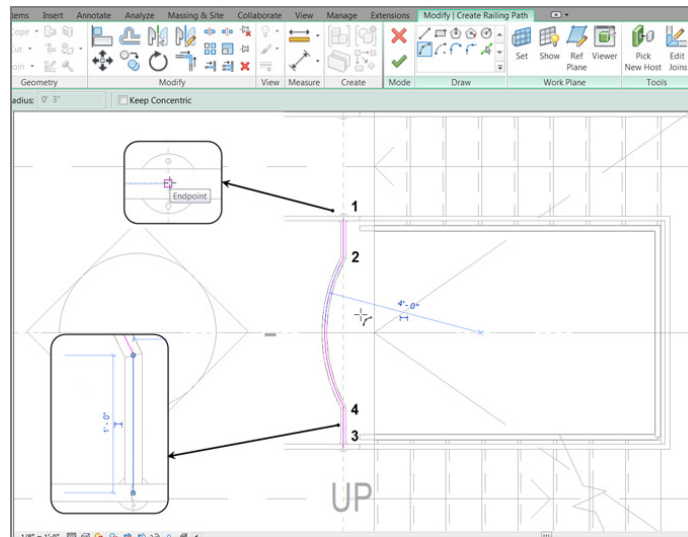

FIGURE 10.28: Creating the middle railing
3. Draw a line down 1'-0" (300mm) from the intersection of the upper-south ADA railing extension and the reference planes, as shown in Figure 10.28.
4. Draw a line up 1'-0" (300mm) from the top ADA railing extension on the south leg of the stairs (see Figure 10.28).
5. On the Draw panel, click the Start-End-Radius Arc button (see Figure 10.28).
6. Draw a 4'-0" (1200mm) arc from the endpoints of the top and bottom lines (see Figure 10.28).